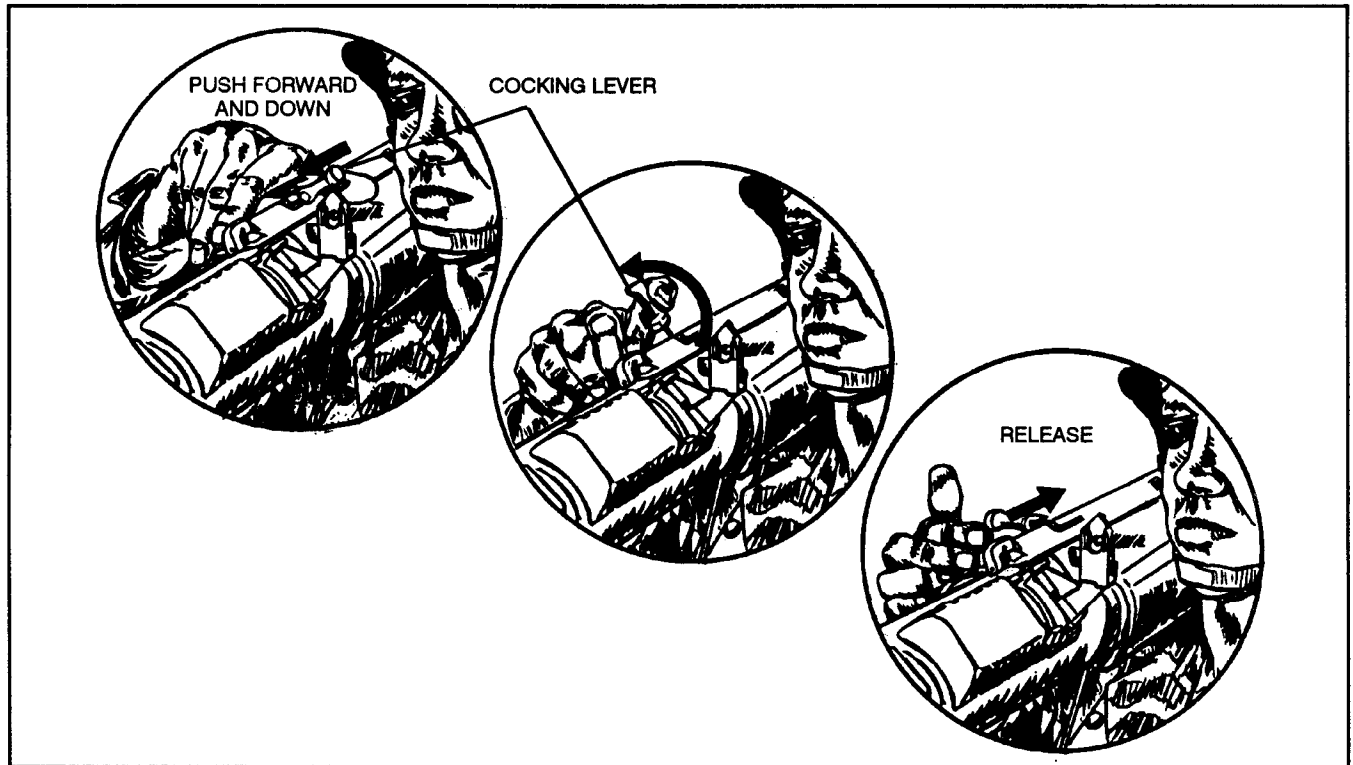

Figure 3-16. Cocking the launcher.
g. *Check the backblast area* before you cock the launcher. Then, with your right hand, unfold the cocking lever (Figure 3-16). Place your thumb under it and, with the support of your fingers in front of the firing mechanism, push it forward, rotate it downward and to the right, and let it slide backward.